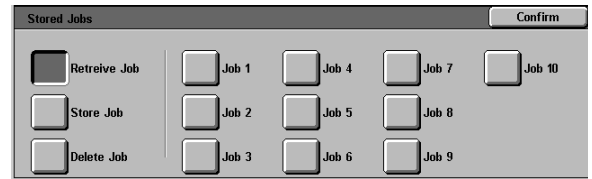

Figure 4: Retrieve Job option selected
- 1 Touch the **Stored Jobs** icon on the Job Assembly tab to display the Stored Jobs screen, as illustrated in Figure 4.